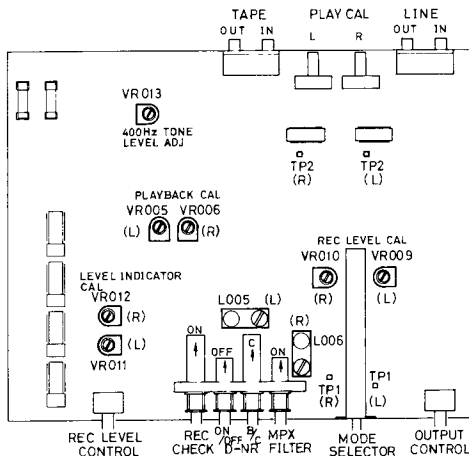

Fig. 1. Main Circuit
Note: For the units with serial number up to NE55434, incorporating "X-495C" main p-c board, locations of potentiometers VR005 (L) and VR006 (R) are reversed. (Fig. 1 shows the layout for "X-495D".)